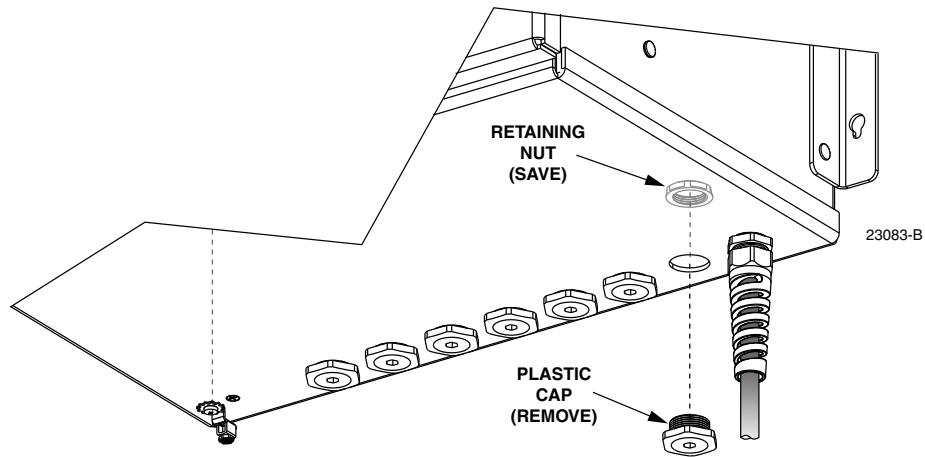

Figure 52. Plastic Cap Removal
4. Remove the plastic cap and retaining nut from the selected distribution cable entry/exit hole as shown in Figure 52. Save the retaining nut for reuse.